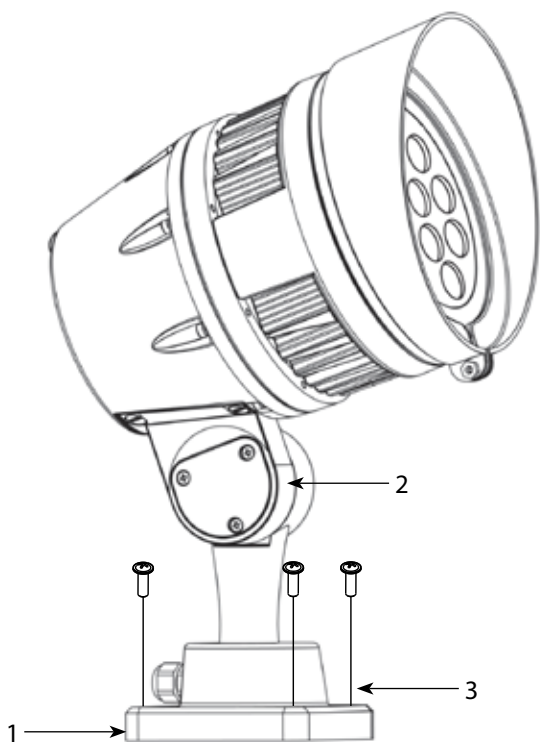

Fig.2
ARCSUN18RGB may be set up on a solid and even surface (fig.2). The unit can also be mounted with to a support bracket (1), the unit can be on different surfaces such as walls and ceilings. The mounting place must be of sufficient stability and be able to support a weight of 10 times of the unit's weight.
- Install the projector at a suitable location by means of the mounting bracket (1). Secure the bracket through the screws into the 4 holes (3).
- Adjust the projector and use the knob (2) to slightly release or tighten the locking mechanism of the bracket if is necessary.